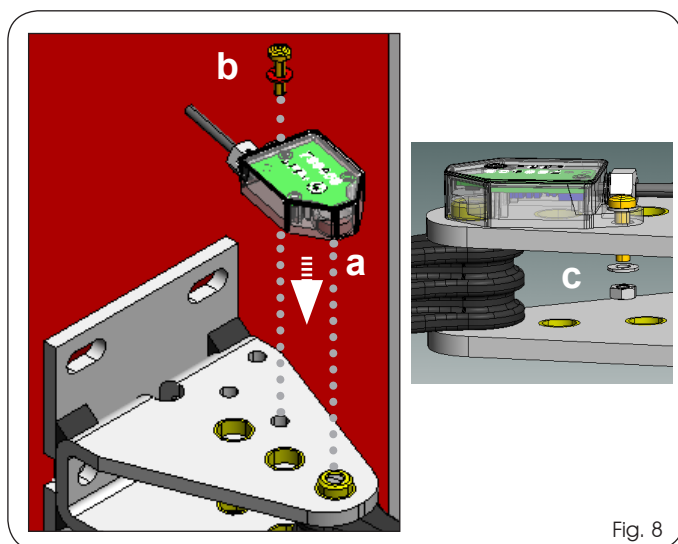

Fig. 8
3. Install the encoder on the rear bracket by correctly engaging it on the pin, then fix it with the screw and nut supplied (Fig. 8 Ref. a, b and c).